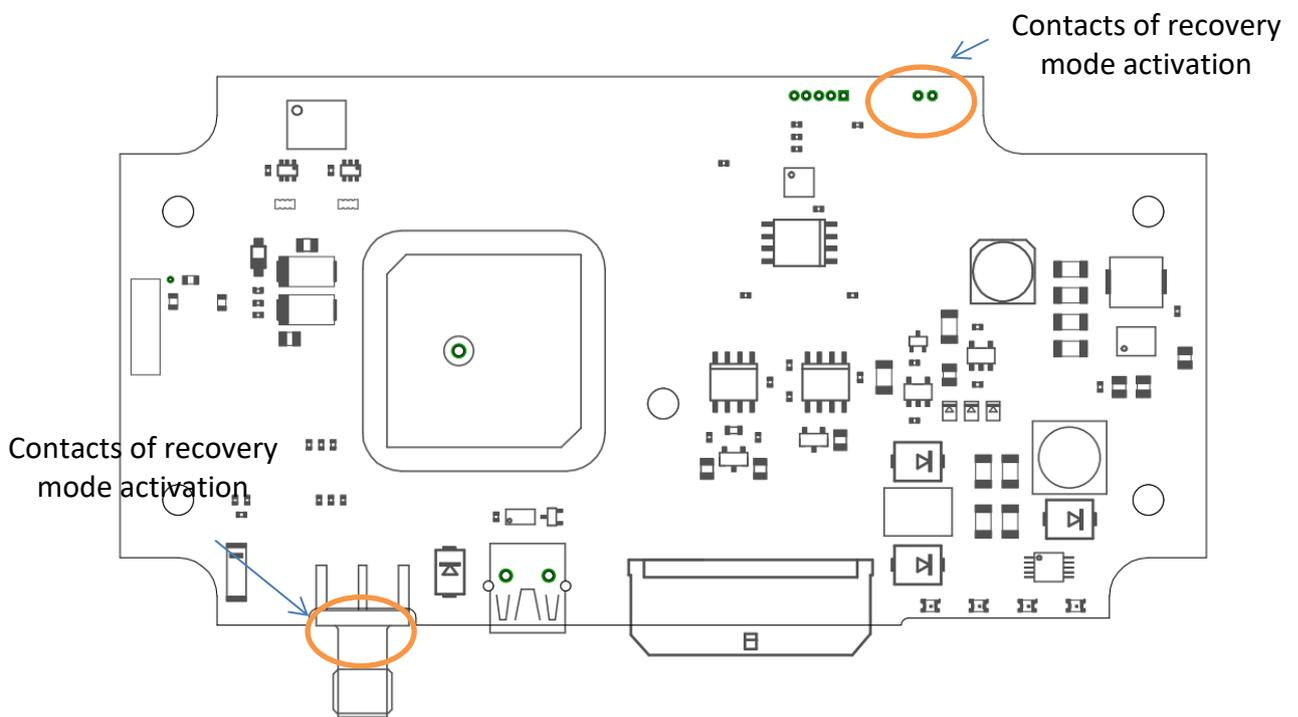

Figure 4. M7PCB
In case of Tracker firmware damage and if firmware upgrade is not possible with regular way, firmware recovery mode is provided. To restore, you must close the jumper the two special contacts on Tracker PCB (see Figure 4), connect the PC USB cable (USB port on the computer must provide the power), run the recovery utility on the PC. This utility writes base version of the software to the device which is able to restore the basic functionality of Tracker to install the current version in the regular way.
2. Open installation. The tracker is mounted inside the car interior, horizontally, with the logo upwards, on the dashboard, or at an angle of up to 90 degrees on the windshield, with the logo ahead in the direction of travel (Figure 4). The power of the tracker can be either from an on-board 12/24 V network or via a USB port from a special adapter, with a USB output of 5V, 1A.